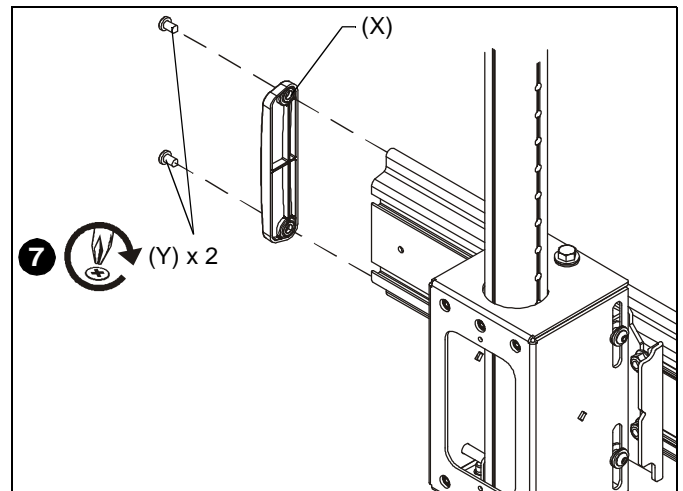

Figure 7
- Repeat for remaining array head (FF).
- Add one end cap (X) to each end of mounting rail, and fasten in place using two 1/4-20 x 1/2" Phillips self-tapping screws (Y) for each end cap. (See Figure 7)